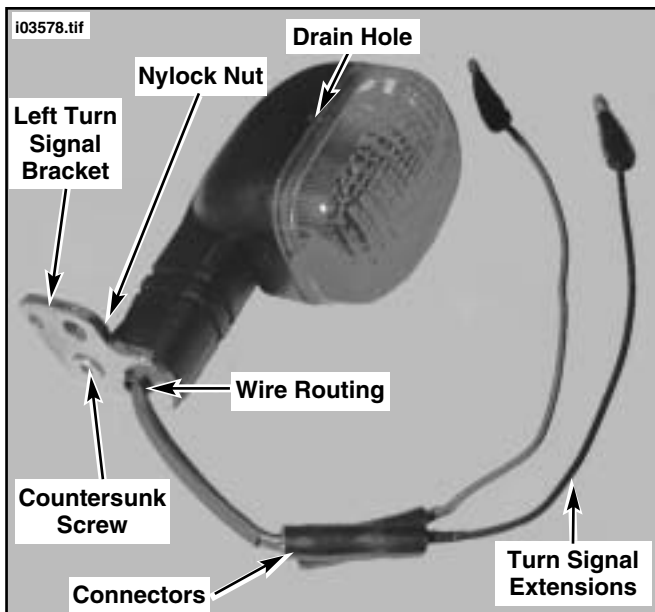

Figure 10. Pre-assemble Turn Signals (Left Turn Signal Shown)
- b. See Figure 10. Thread turn signal wires through hole in long portion of left bracket. Orient bracket as shown and secure to turn signal housing using countersunk screw and nylock nut. Tighten securely.